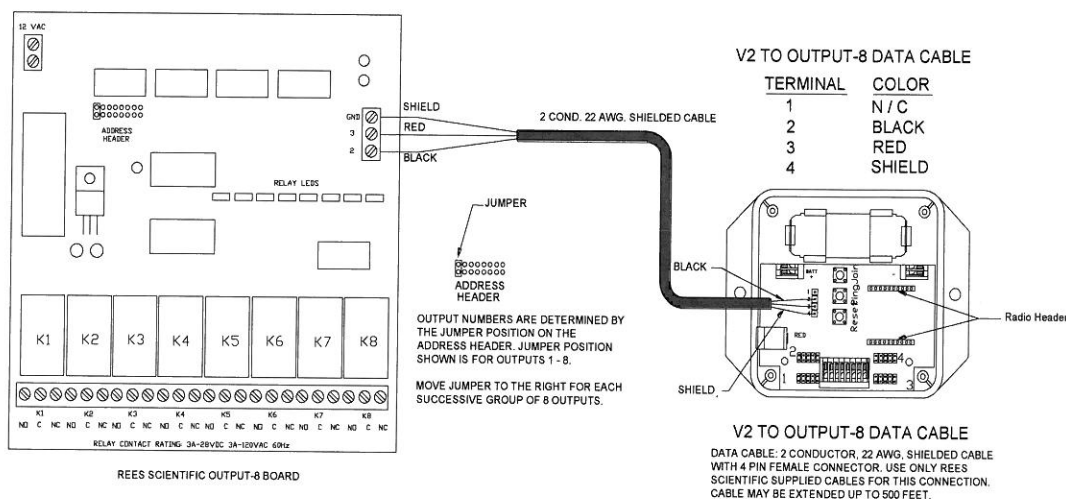

Figure 20:
3. Connect the Output Cable to the programming header on the Zigbee Module as shown in Figure 20. A ¼" hole may be drilled in the side of the module's enclosure to admit the cable. An alternative method would be to cut a notch in the side of the enclosure below the cover to allow the cable to exit and the cover to be secured to the base of the enclosure.
NOTE: The jumper on the Address Header located on the Output 8 Board (See Figure 20) must be set to match the corresponding Output Number range selected in the Wireless Subsystem Administrator.